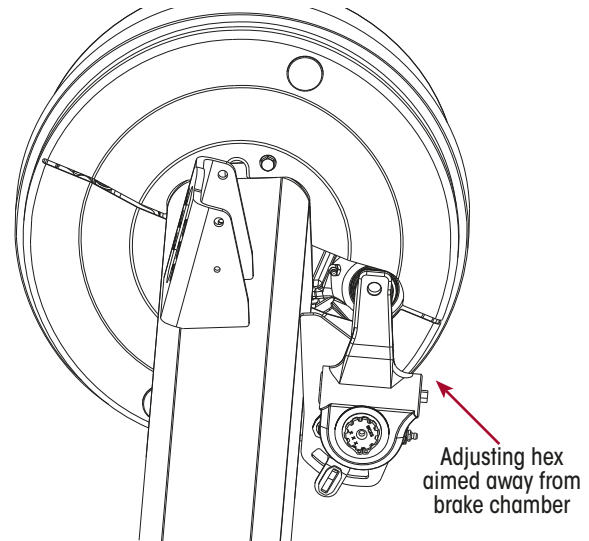

Figure 95: Slack Adjuster Adjusting Hex Position
- Install brake adjuster onto camshaft with the arm close to the clevis and the manual adjusting hex pointed away from the brake chamber. Refer Figure 95.